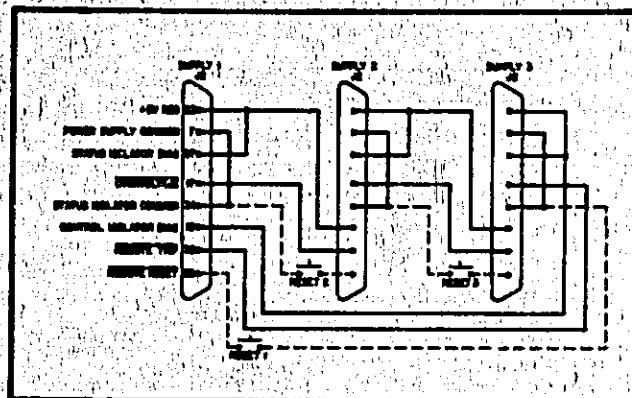

Figure A-9. System Shutdown Using 6012A Bias Supply Output
**A-61** Figure A-9 shows a second method of system shutdown. This method is appropriate in systems which are not controller-operated and in which more than four supplies must be shutdown simultaneously. Because each supply derives its **CONTROL ISOLATOR BIAS** from the previous supply's +5V REG, there is no limit to the number of supplies that can be shutdown. Each supply must be reset individually.